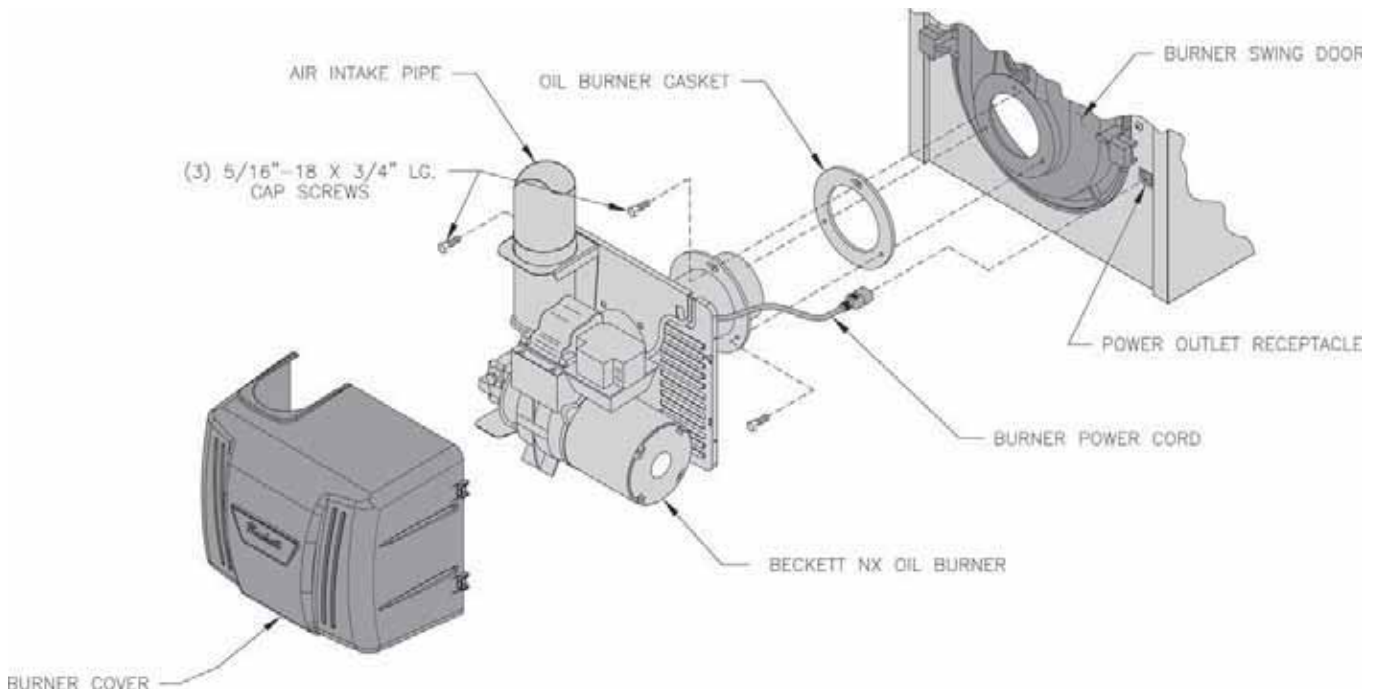

Figure 33: Oil Burner Installation
4. Remove burner cover. Loosen two screws securing outside air duct bracket to burner cover mounting plate. See Figure 33.
7. Secure the pipe to collar with at least (3) sheet metal screws (installer provided) evenly spaced around the collar.
10. Secure the tee to the pipe with at least (3) sheet metal screws (installer provided) evenly spaced.
14. Install remainder of air intake piping to Direct Vent Termination air intake collar, securing each joint with at least (3) sheet metal screws (installer provided) evenly spaced.